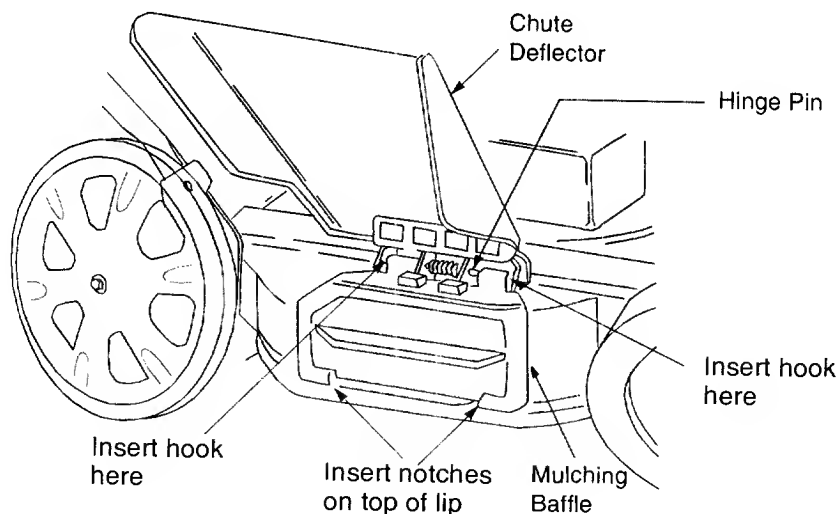

FIGURE 11
- Insert the mulching baffle so that the notches at the bottom of the baffle sit firmly on the lip of the deck opening. See Figure 11.